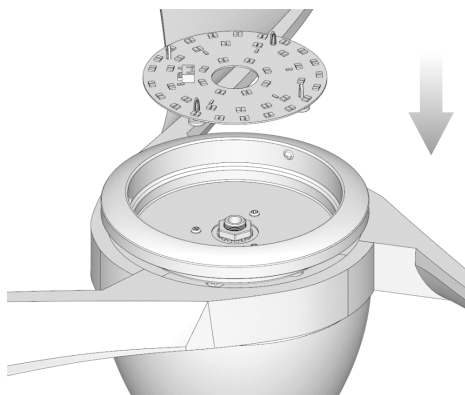

Fig. 3.2
3.2 Allow the wire plug and safety rope to pass through the light kit. Reinstall the light kit. The light kit will be magnetically attracted to the pan with the help of magnets, as demonstrated in Fig. 3.2.